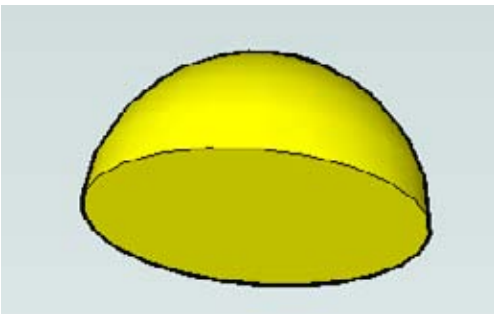

Figure 2-80
5. Remove the larger circle. Then you can easily cover the hole by tracing any edge of the bottom circle. The final half-sphere is shown in Figure 2-80.